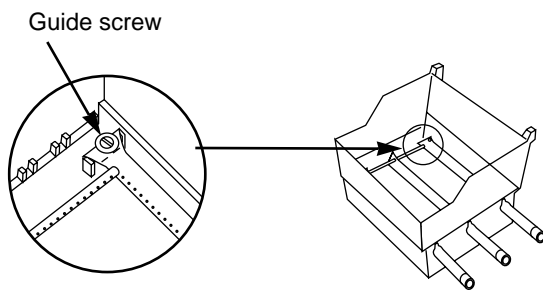

Figure 23
- f) Slide the burner assembly out from under the guide screw and washer in the corners of the cooking box. Figure 23.